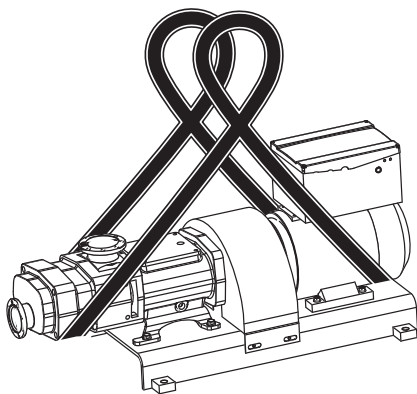

Fig. 7 Transport with round sling
Place the round sling around the gear motor, see Fig. 7 "Transport with round sling", Page 10.
2. Put the other end of the round sling around the pump housing, see Fig. 7 "Transport with round sling", Page 10.